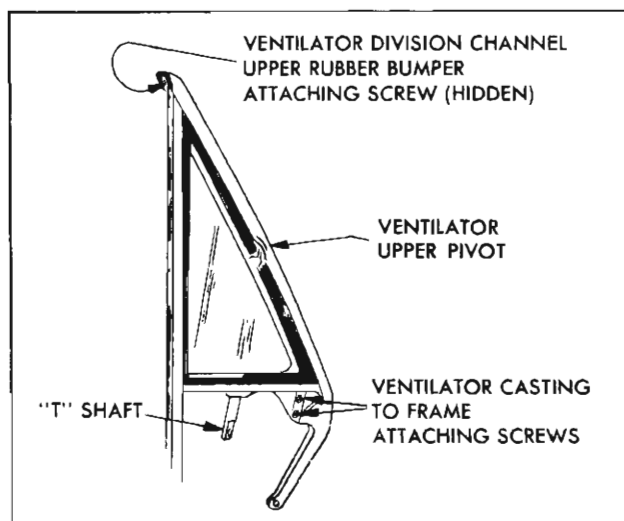

Fig. 32—Disassembly of Front Door Ventilator
90° and pushing glass downward slightly to disengage glass unit from ventilator frame at upper pivot point and then upward to disengage lower tee shaft from frame (See Figure 32).
4. Remove two attaching screws securing ventilator casting to frame and separate ventilator casting from frame so that the ventilator weatherstrip can be removed (See Figure 32).